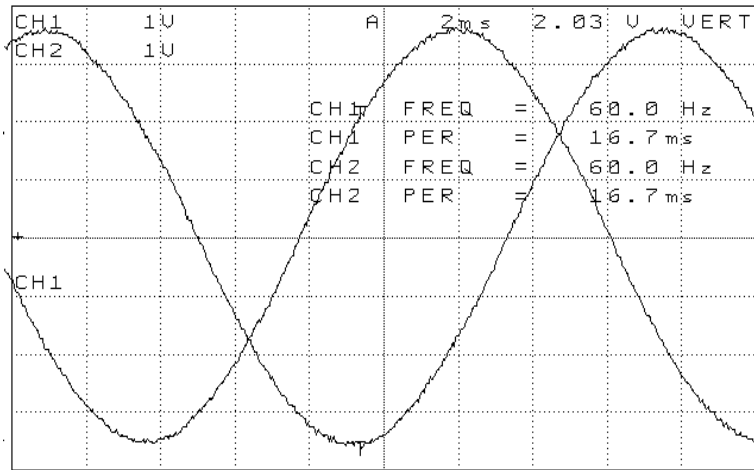

Figure 1.
- 8) Attach 3 phase 115 VAC to circuit card as follows: Line 1 to CP54, Line 2 to CP57 and Line 3 to CP60. Apply power and observe TP8 and TP9 with oscilloscope and observe the following waveform in figure 1.